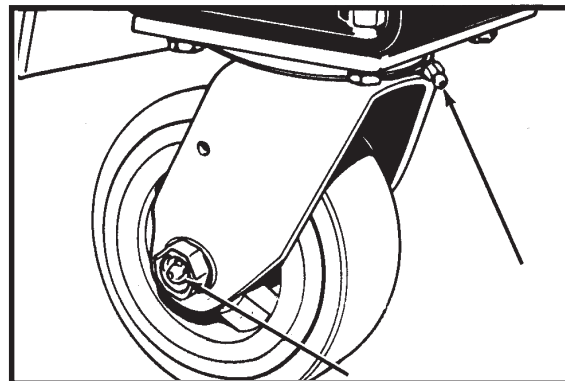

Figure 8
5. Use a grease gun to lubricate the caster. See figure 8.